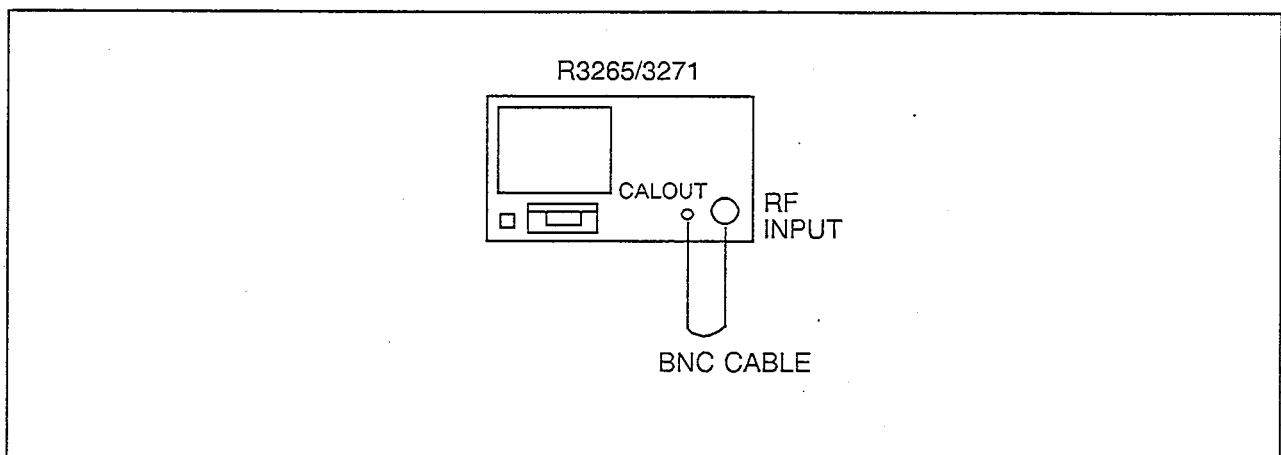

Figure 4-7 Reslution Bandwidth Accuracy/Selectivity Setup
(1) Connect the R3265/3271 CALOUT to the INPUT 50 Ω as shown in Figure 4-7.
(2) Press **PRESET** and set the controls as follows: